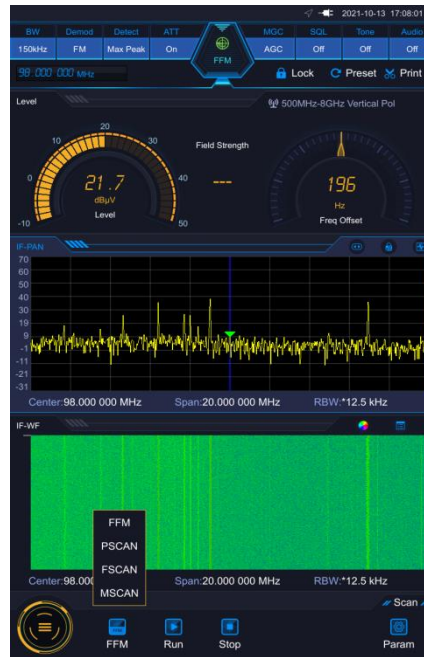

Fig. 4.1 Fixed Frequency Receiving Mode
Step 1. Set the operating mode. Select [System Menu] to pop up the menu, select [Scan] icon and [Fixed Frequency Receiving] to enter the fixed frequency receiving mode, as shown in Fig. 4.1.